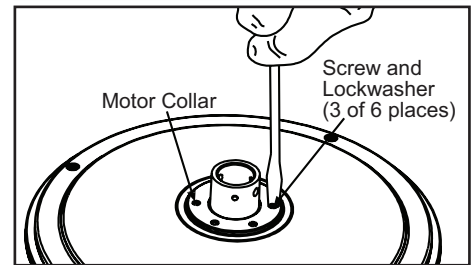

Figure 10
- Remove three of the six screws and lock-washers (every other one) securing the reinforcing plate to the top of the fan motor housing (Figure 10).